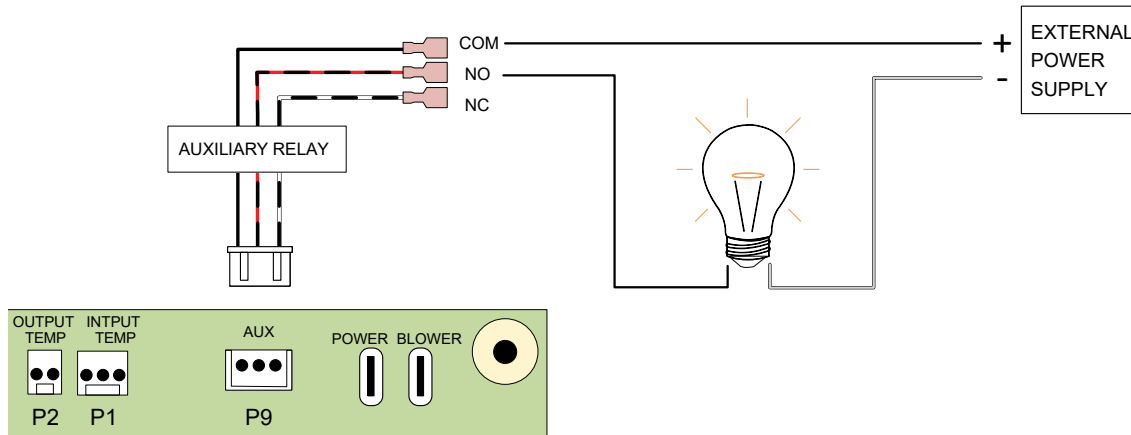

Figure 145. Auxiliary Relay
- **P9 Auxiliary is a dry contact output: It requires external power supply to energize connected devices. See Figure 145.**